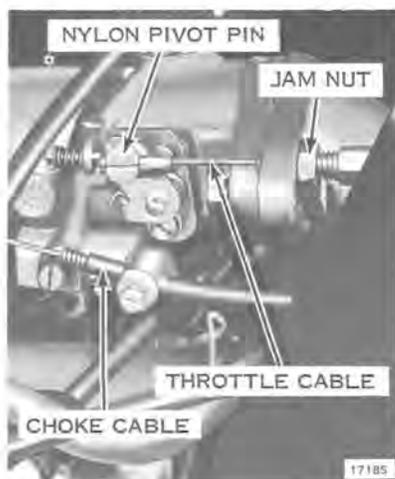

Figure 6-2
- Remove throttle cable using the following procedure: Depress thumb throttle lever. Hold throttle in open position. Slip end of throttle cable through nylon pivot pin. Loosen jam nut on intake manifold and turn cable fitting out of manifold. See Figure 6-2.